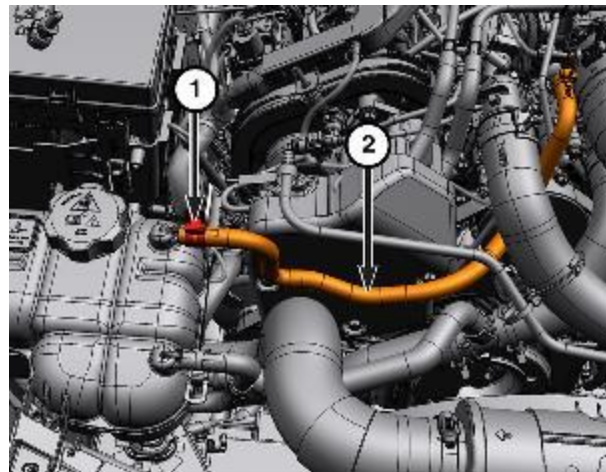

Figure 36 - Degas Hose
5. Release the hose clamp (1) and set the degas hose (2) aside (Figure 36).